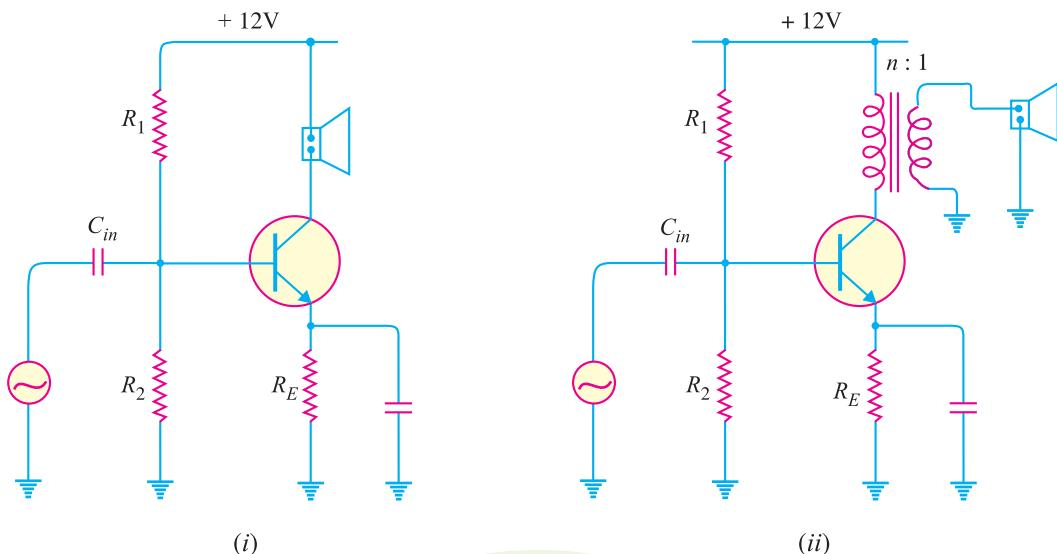

Fig. 12.9
**(i) Loudspeaker directly connected.** Fig. 12.9 (i) shows the circuit of class A power amplifier with loudspeaker directly connected in the collector.
**(ii) Loudspeaker transformer coupled.** Fig. 12.9 (ii) shows the class A power amplifier with speaker transformer coupled. As stated before, for impedance matching, step-down transformer is used.